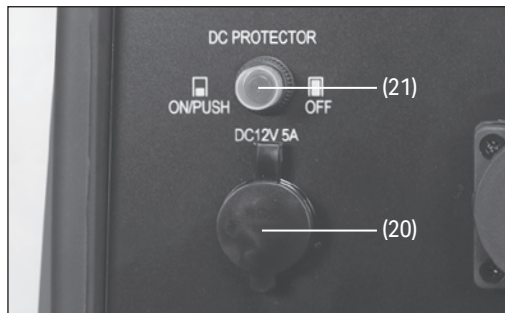

Fig. 13
7.6 DC Circuit Breaker (Fig.13)